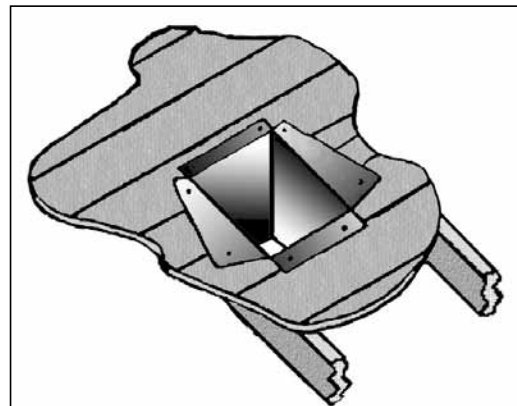

Figure 36: Cathedral Ceiling Support Box Installation.
5. Using tin snips, cut the "Support Box" from the top corners down to the roof line, and fold the resulting flaps over the roof sheathing (Figure 36). Before nailing it in to the roof, run a bead of non-hardening mastic around the top edges of the "Support Box", to make a seal between the box and the roof. Clean out any combustible material from the inside of the "Support Box".